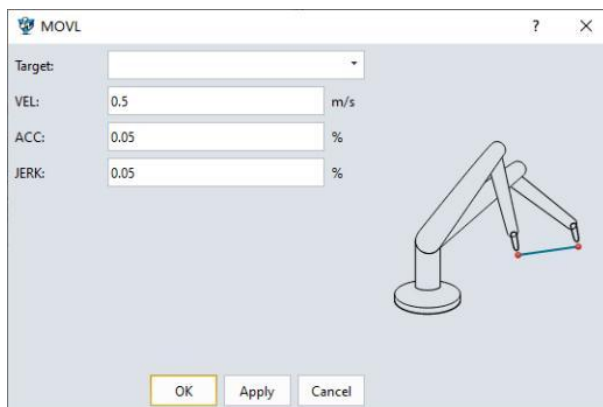

Figure 3-35: MOVL
(3) MOVL:
- **Explanation:** The unit of VEL is m/s; ACC and JERK both use percentage form, and the input range is a positive number. If it is less than or equal to 0, an error will be reported; (Figure 3-35)